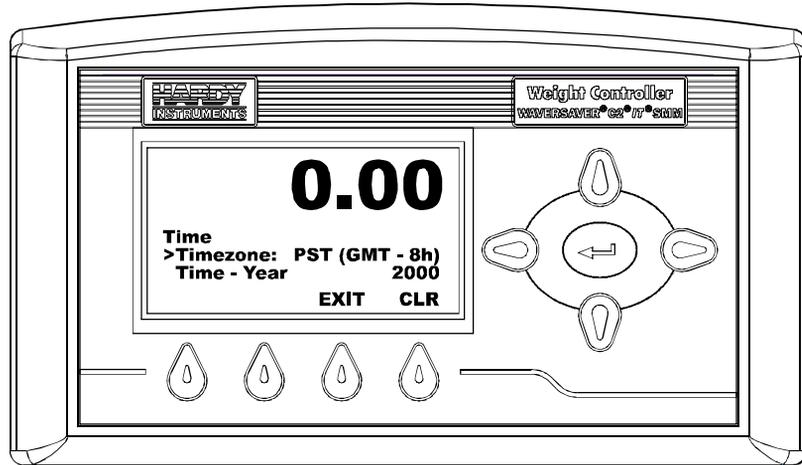

FIG. 97 TIME MENU/SELECTING GREENWICH MEAN TIME
Step 2. Press the Enter button. The Time Setup Menu appears with the cursor in front of Time Zone. (See Fig. 97)